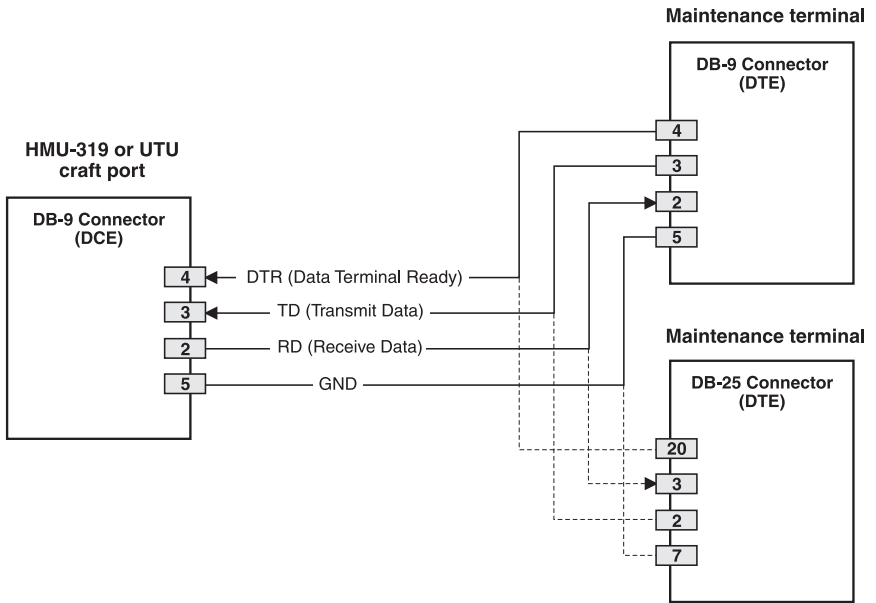

Figure 8. *HMU-319 Craft Port and Maintenance Terminal Connector Pinouts*
- 1** Connect a standard serial cable from the maintenance terminal COM port to the front-panel craft port of the HMU-319. The pinouts for the craft port and maintenance terminal connectors are shown in Figure 8 on page 15.